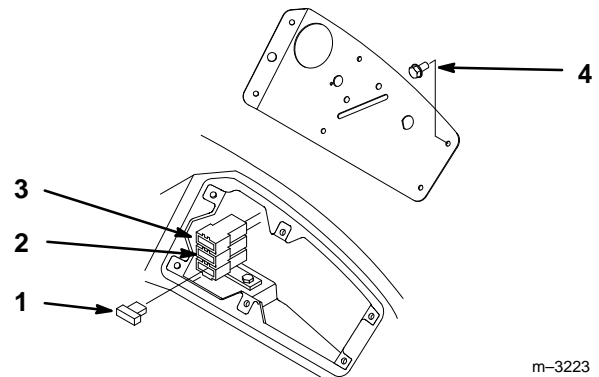

Figure 34
1. Remove dash panel screws to gain access to fuse holder (Fig. 34).
2. To replace fuses pull out on the fuse to remove it (Fig. 34).